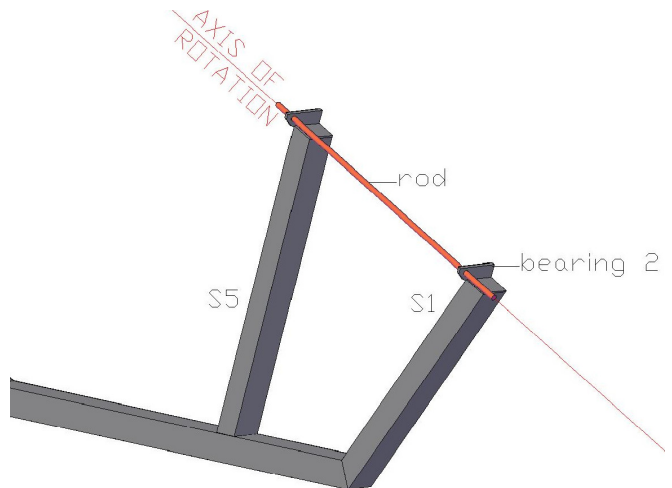

Fig. 20: Assembly of main bearings step2
**Step 2** Push a 10mm rod through bearing 1 and bearing 2. Place bearing 2 flush to the northern edge of S1. Weld it ensuring that the rod can be moved easily. See Fig.20.